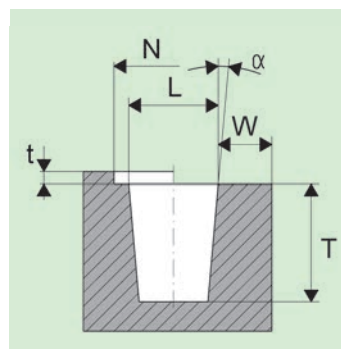

Fig. 24
Hole diameter (L , fig. 24) and wall thicknesses (W) are dependent on the material used for the formed part, the insertion method and the requirements imposed on pull-out resistance / torque safety. Please inquire or ascertain by testing. For guideline values, see the Works Standard sheets.
(fig. 24).